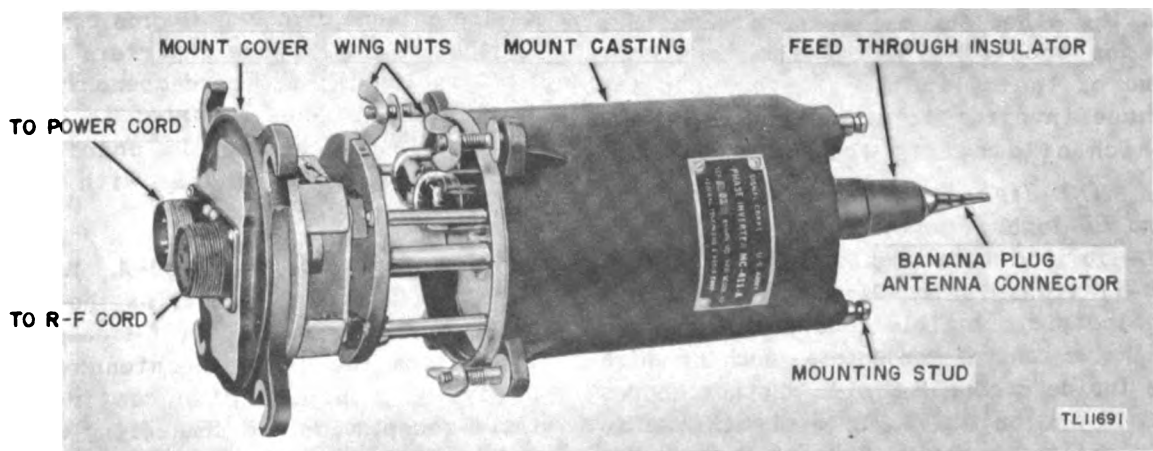
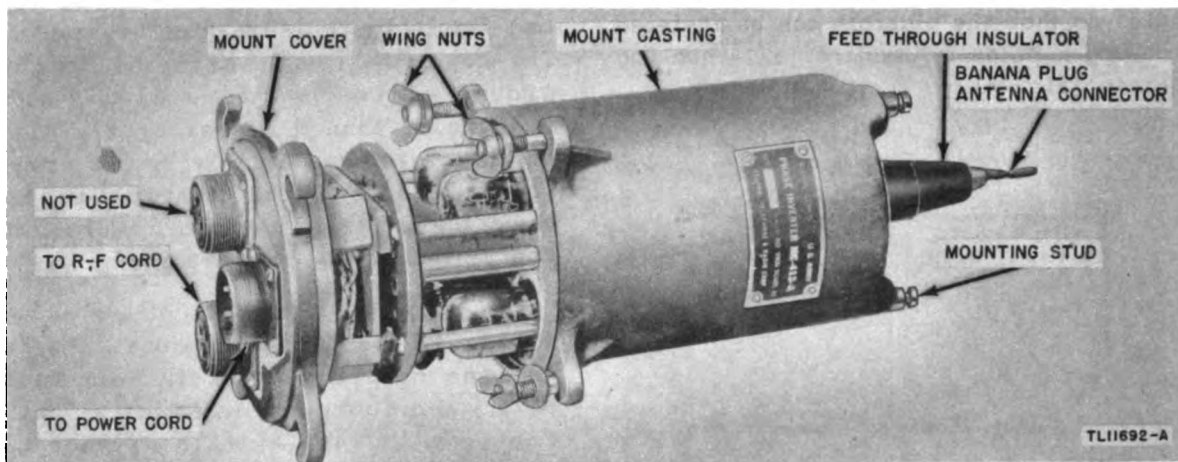

Figure 5. Dismantled view of Phase Inverter MC-411-A.
Figure 6. Dismantled view of Phase Inverter MC-413-A.
(4) Phase Inverters MC-411-A and MC-413-A. Two types of phase inverter antenna coupling units (MC-411-A and MC-413-A) are used with Radio Set AN/CRD-3. One type (MC-411-A) (fig. 5) has two tubes, one in use and one spare, and is used with each of the four corner antennas. The other (MC-413-A) (fig. 6) has four tubes, two in use and two spares, and is used with the central or sense antenna. Phase Inverter MC-413-A is actually two Phase Inverters MC-411-A in a single mount casting with inputs connected in parallel. However, in Radio Set AN/CRD-3 only one of the outputs of MC-413-A is used. The unused output receptacle is covered with a metal cap. Each phase inverter is mounted in a cylindrical aluminum casting with overall dimensions of 7-1/4 and 12-3/4 inches. The internal radio-frequency (r-f) section is a plug-in unit, and all power and r-f connections are made simultaneously when it is properly